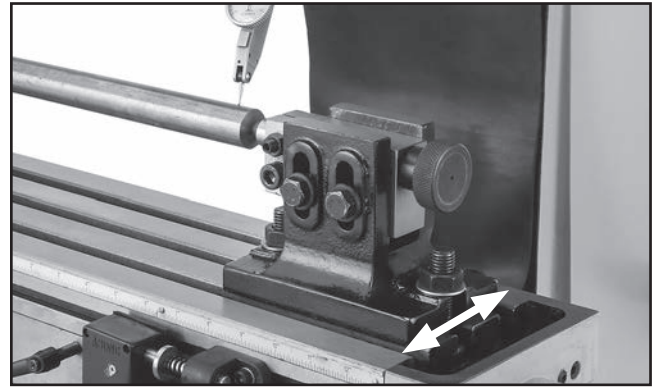

Figure 32. Adjusting tailstock for offset.
5. Move table along X-axis and indicate horizontal centerline of workpiece near rotary table. If there is an offset, adjust position of tailstock half the distance of the offset and recheck (see **Figure 32**).